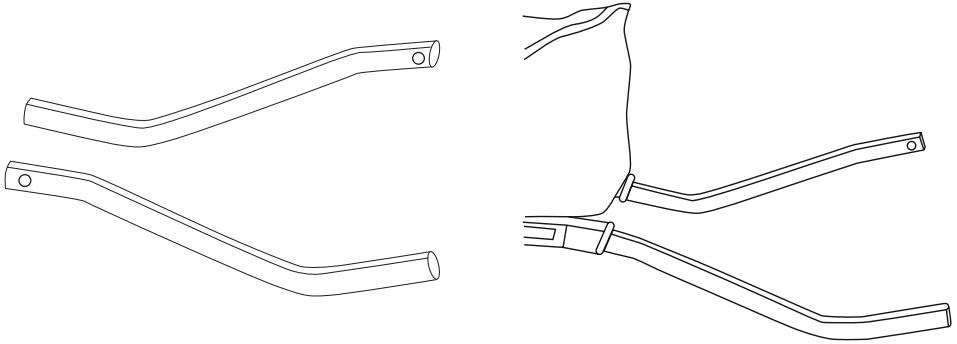

Fig. 11
- a) 871.50 HANDLES and 871.51 GRIPS (figures 11 and 12),